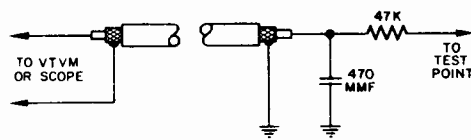

Figure 11 - Decoupling Network
*Oscilloscope and VTVM* - Use a low-capacitance direct probe terminated with the decoupling network shown in Figure 11. Keep the oscilloscope calibrated for 2 volts peak to peak (P-P). Use a VTVM range suitable for measuring -1.5 volts.